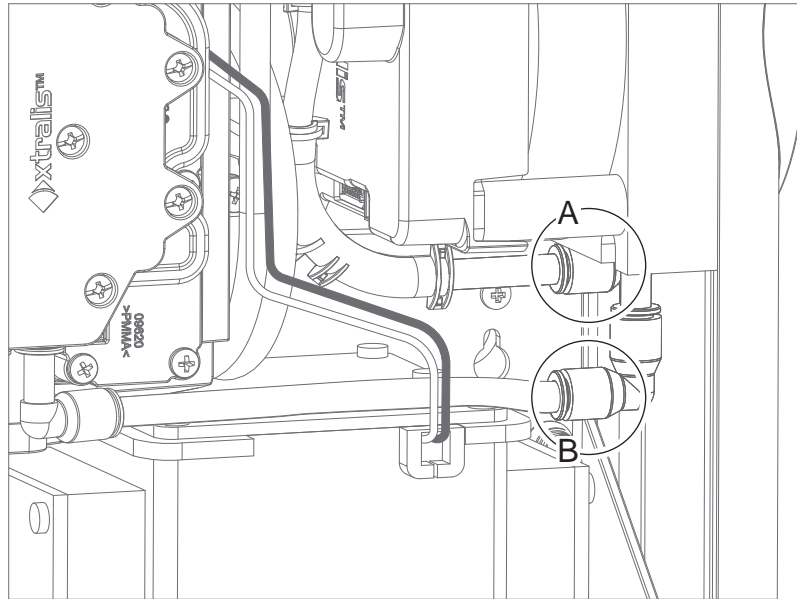
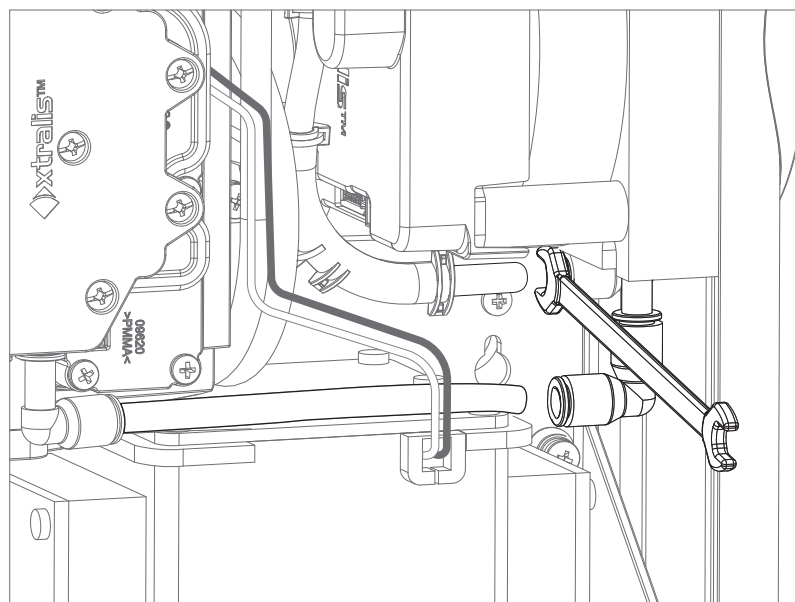

Figure 7-17: Disconnect pipes
Figure 7-18: Disconnect pipe
4. Disconnect two tubes, A and B (Figure 7-17). Use a spanner to push on the black release button on the pipe connector as shown while simultaneously withdrawing the pipe (Figure 7-18).